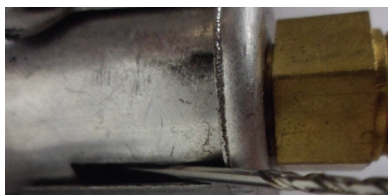

Figure 3
1. Ensure the air shutter is set to the specification. **See Figure 3 and Tables 1 and 2 on page 8.**